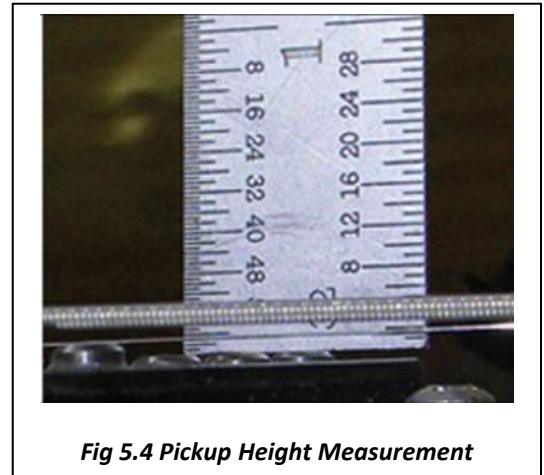

Fig 5.4 Pickup Height Measurement
- 5.4 Pickup Height (Figure 5.4)..... - 4 -
5.4 Pickup Height (Figure 5.4)